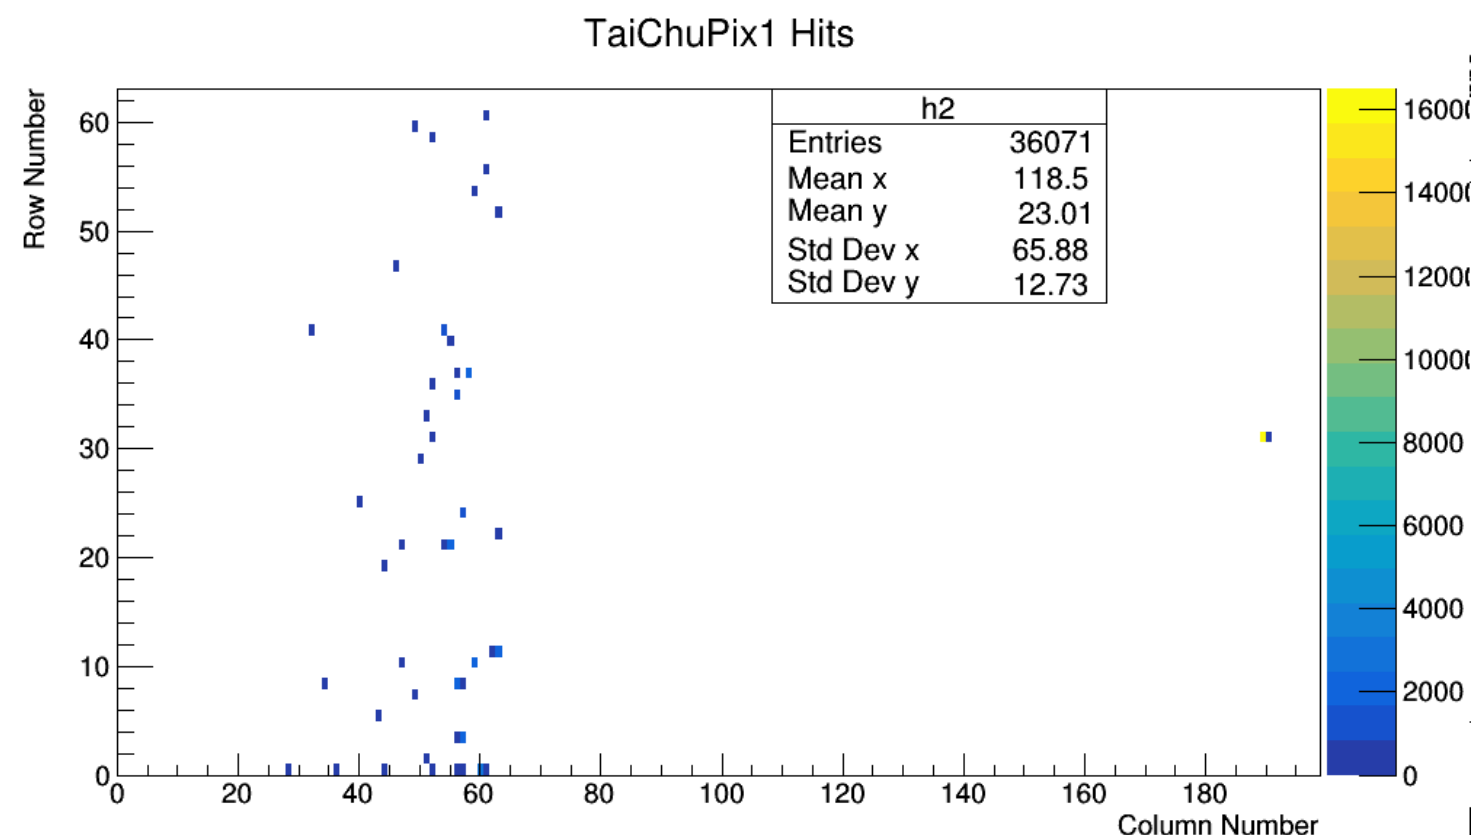

Fig2 LVDS DATA from exposure to desk lamp.
- Fig2 shows the hit map of desk lamp shines to the chip.